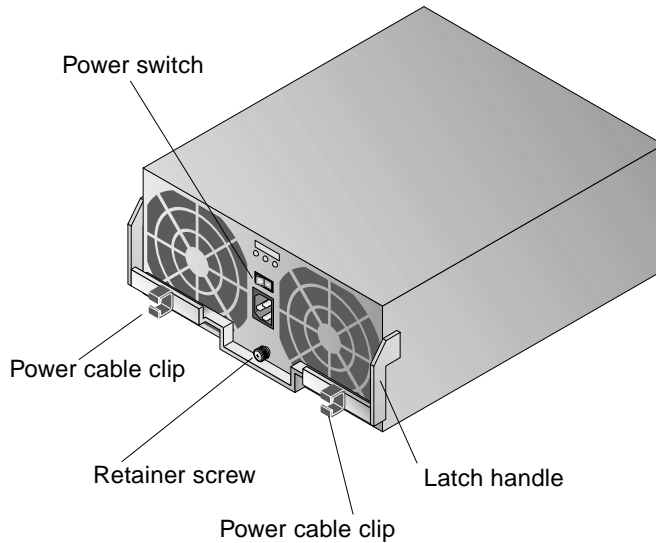

FIGURE 6-9 Power and Cooling Unit
1. **Power off the power and cooling unit by pressing the power switch** (FIGURE 6-9). Make sure that the blue SIS LED is lit.
- 3. Remove the power cable from the cable clip on the power and cooling unit (FIGURE 6-9).**